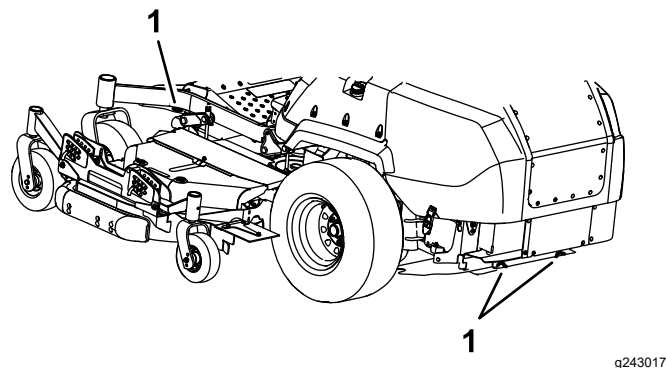

Figure 34
6. Tie down the machine near the front caster wheels and the rear bumper with straps, chains, cable, or ropes (Figure 34). Refer to local regulations for tie-down requirements.